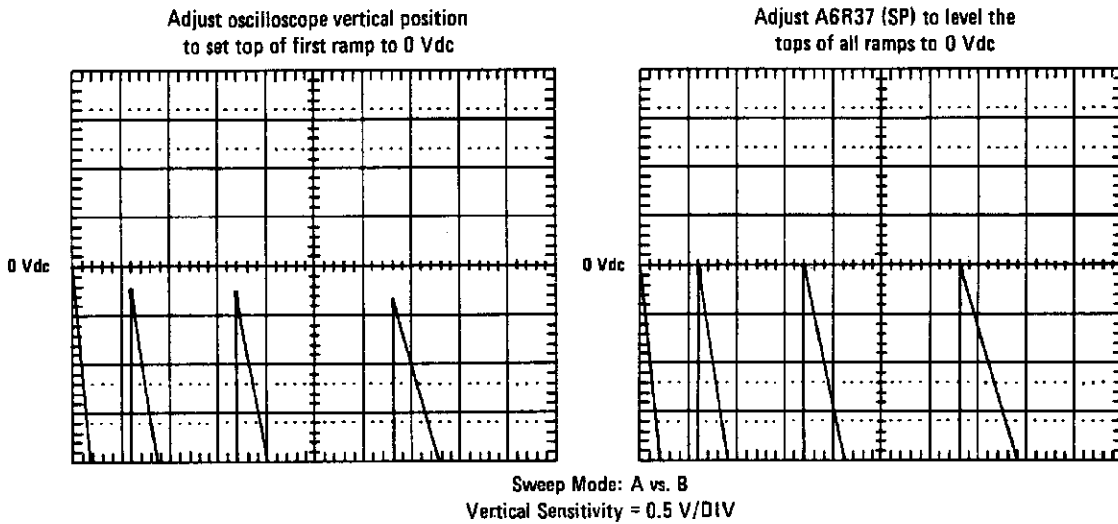

Figure 5-5. Sweep Control Adjustment Waveforms
22. Adjust the Oscilloscope vertical position control to set the top of the first full 0 to -10 volt sweep ramp on the centerline as shown in Figure 5-5.
23. Adjust A6R37 (SP) to bring the tops of the remaining 0 to -10 volt sweep ramps to the center graticule as shown in Figure 5-5.